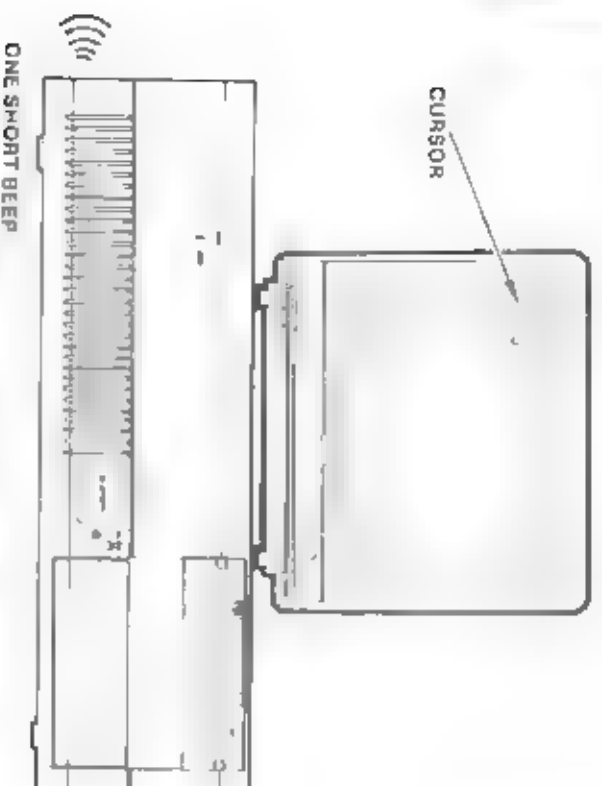

Figure 5-8 System Startup Test Beep and Monitor
- 4 If all the self-tests are good, the system issues one short beep. The cursor is displayed in the upper left-hand corner of the display monitor (Figure 5-8) and the drive A in-use light turns on. Then the A>DISKX message is displayed (see section 5.1)